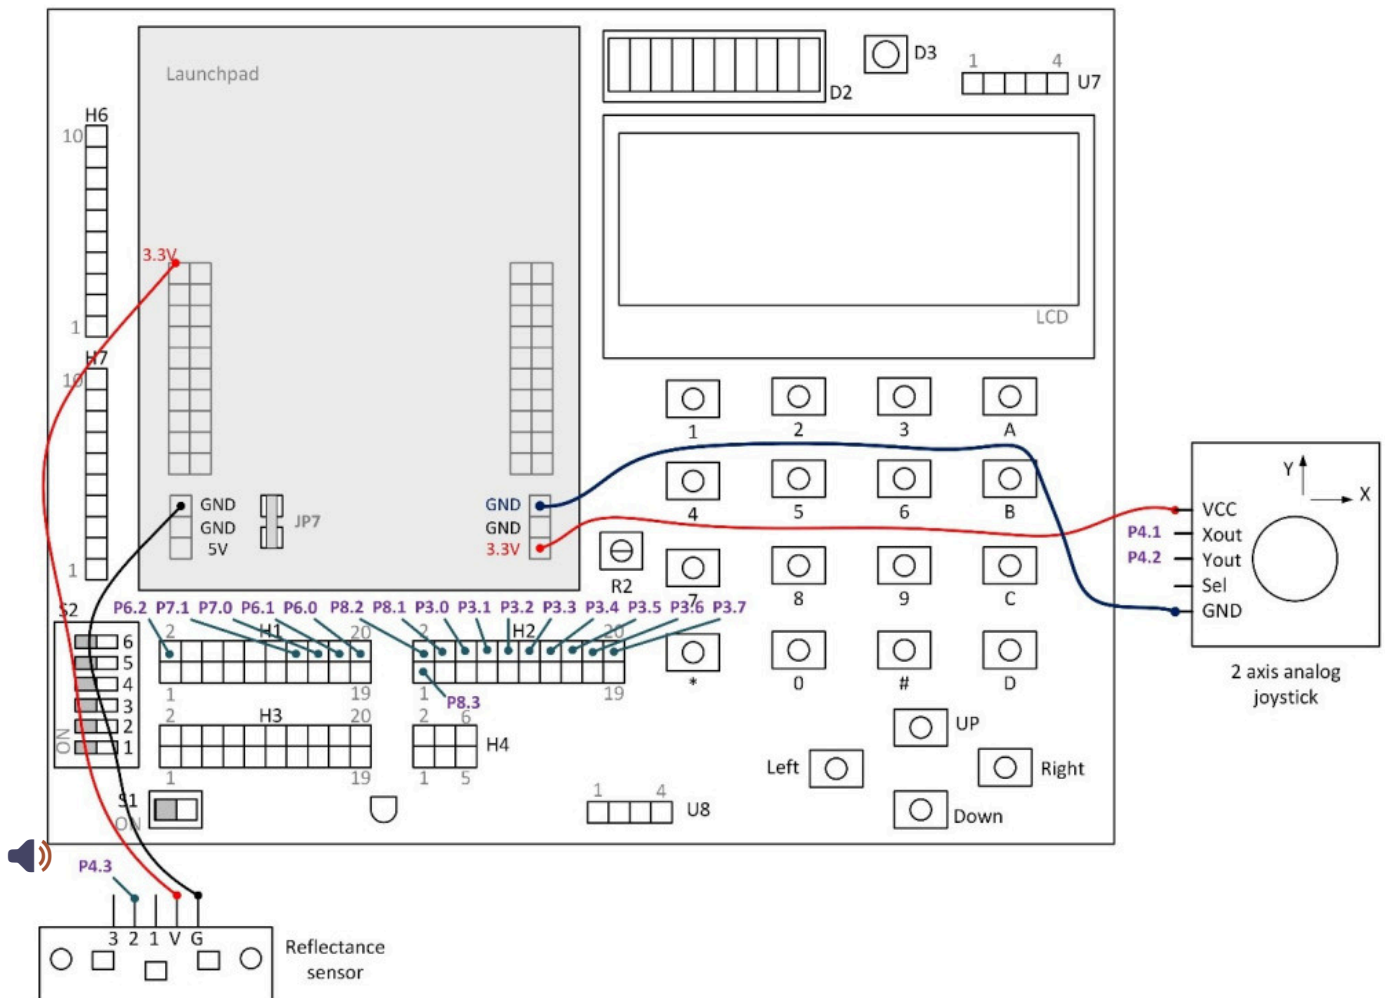

Figure 1. Connection diagram
- Connect jumper wires as shown in Figure 1.
- For System B, you can use the same connection diagram shown in Figure 1